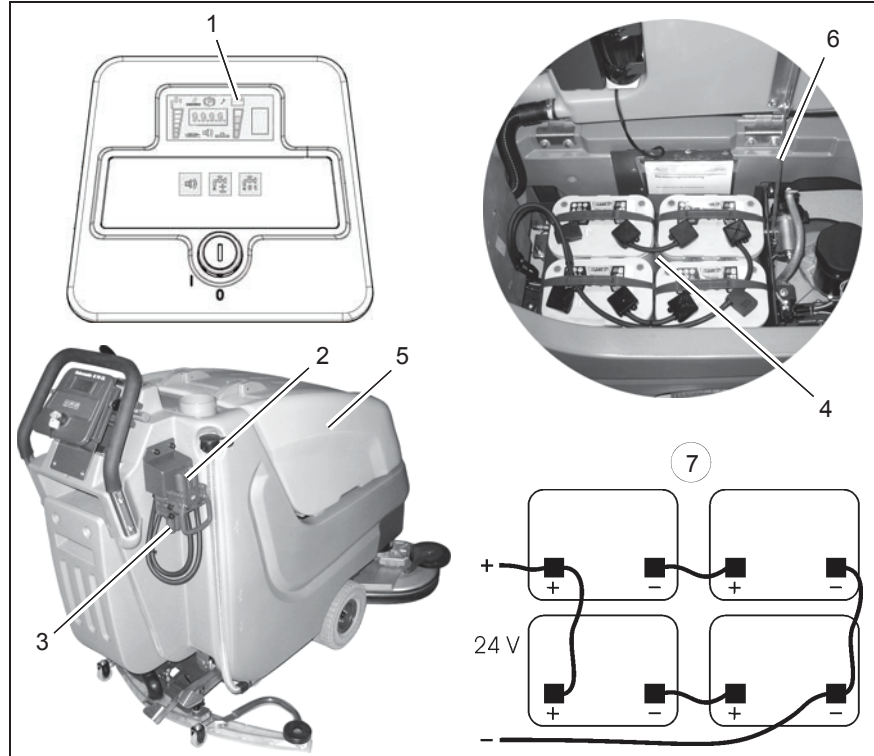

Fig.7
During operation, the LDS indicator (Fig. 7/1) displays the battery charge status. When the batteries are empty, the battery icon flashes and an acoustic warning signal is issued. The machine functions are restricted. Drive to a charging station immediately.!
1. Disconnect the battery plug (Fig. 7/2).
3. Connect the charging cable from the charger to the battery socket (Fig. 7/3) on the machine.
3. Open emptied soiled water tank (Fig. 7/5) and secure by support (Fig. 7/6).
4. Disconnect battery plug (Fig. 7/2).
2. Open emptied soiled water tank (Fig. 7/5) and secure by support (Fig. 7/6).
4. Connect battery poles and enclosed connecting cables according to wiring diagram (Fig. 7/7). Provide for tight fitting and grease poles.